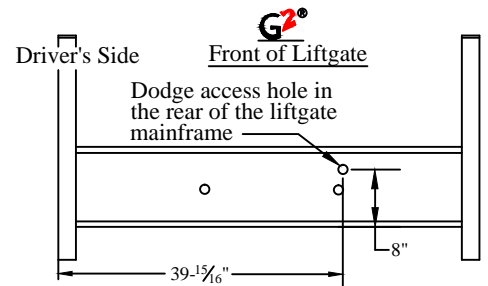

Figure 17: G² spare tire access.
2. **Remove** the black plastic plug from the mainframe in the location shown (Figure 17).